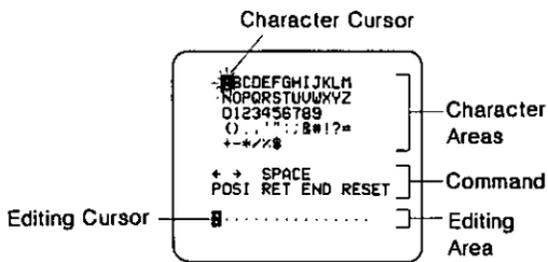

Fig. 22
- Move the cursor to the "CAMERA ID" mode position and press the Set Switch (11) to display the Character Editing menu as shown in Fig. 22.
2. The camera ID moves faster when any of the Up Switch (^) (10), Down Switch (V) (7), Left Switch (<) (9) and Right Switch (>) (8) is kept pressed for more than 0.5 seconds.
- After completing the positioning of the camera ID, press the Set Switch (11) to return to the Character Editing menu as shown in Fig. 22.
- To return to the normal camera picture mode, move the character cursor to the "END" position and press the Set Switch (11).
- To return to the Setup menu for setting other items, move the character cursor to the "RET" position and press the Set Switch (11).